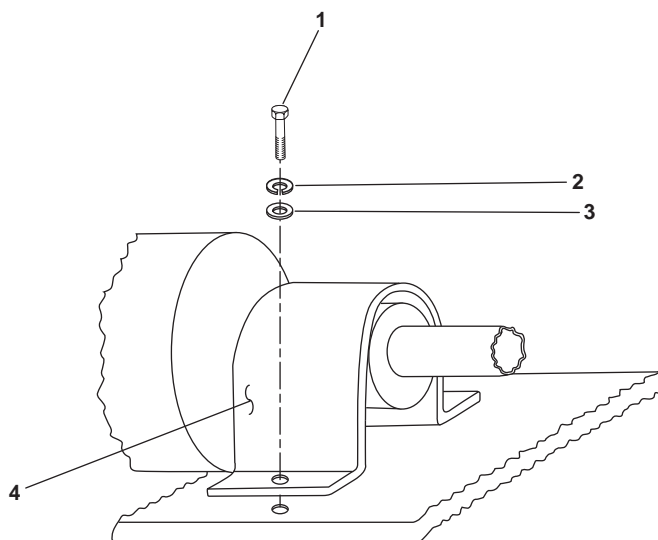

Figure 2. AFFF Pump Coupling Cover
6. Remove the two bolts (figure 2, item 1), two lockwashers (figure 2, item 2), and two flat washers (figure 2, item 3) from the coupling cover (figure 2, item 4). Discard the lockwashers.
7. Remove the coupling cover (figure 2, item 4).
7. Install the coupling cover (figure 2, item 4) with two bolts (figure 2, item 1), two flat washers (figure 2, item 3), and two new lockwashers (figure 2, item 2).